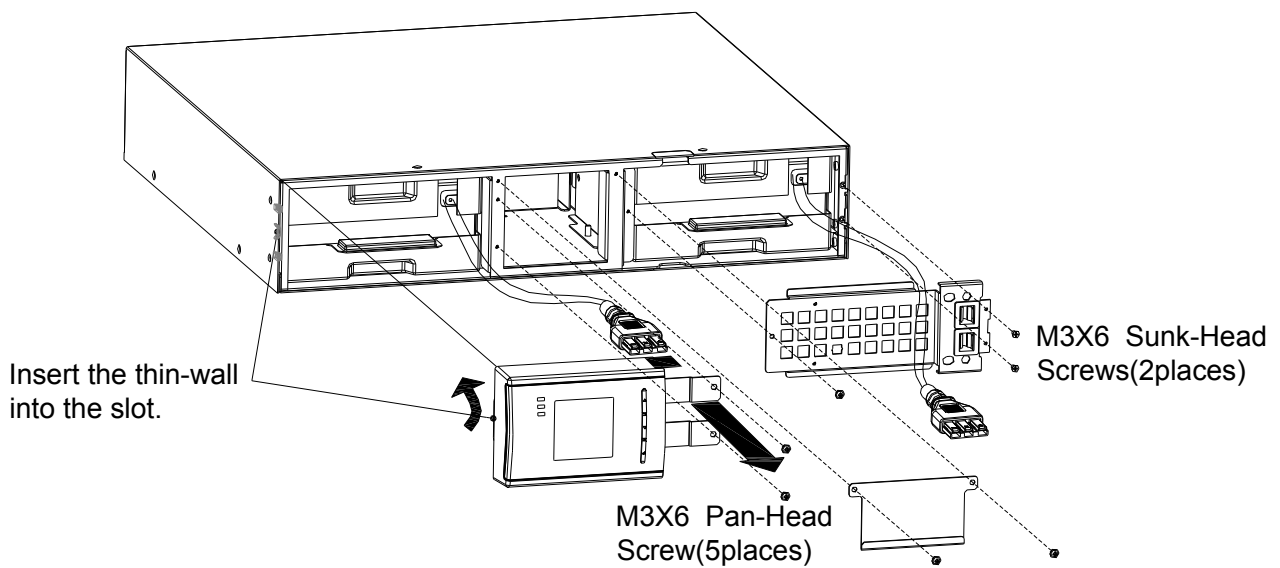

FIG. 23 Installation for battery pack
4. Hold the middle of the new battery pack, insert it. Once install the new battery pack, make sure it is completely inserted into the chassis as fig 23 shown.